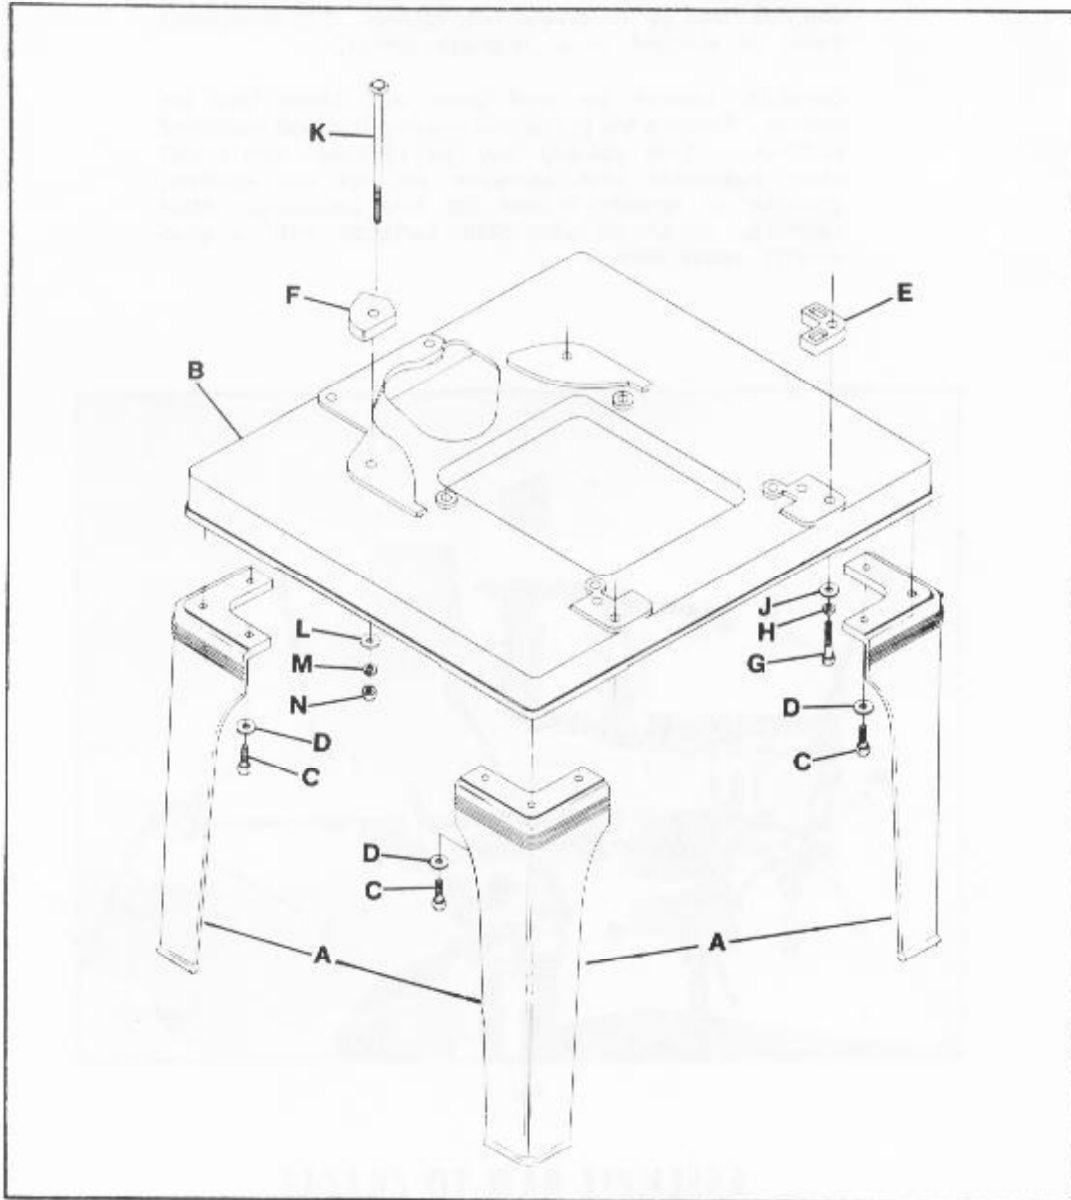

Fig. 3
1. Fasten the four legs (A) to the stand base (B) using the twelve 1/2"-13 X 1-1/4" hex head screws (C) and flat washers (D), as shown in Fig. 3.
1. Place the two front spacers (E) and two rear spacers (F) in position on top of the stand base, as shown in Fig. 3.
2. Place the drill press on the four spacers (E) and (F) making sure the holes in the bottom of the drill press base line up with the holes in the four spacers.
3. Using the two 1/2"-13 X 2-1/4" hex head screws (G), lockwashers (H) and flat washers (J), fasten the front end of the drill press base to the stand. The holes in the bottom front of the drill press base are threaded.
4. Place the two flat washers (L) on the two 1/2"-13 X 9" square head bolts (K) and insert the bolts down through the top of the drill press base through the holes in the spacers (F) and through the holes in the rear of the stand. Fasten in place using the lockwasher (M) and jam nut (N), Fig. 3.